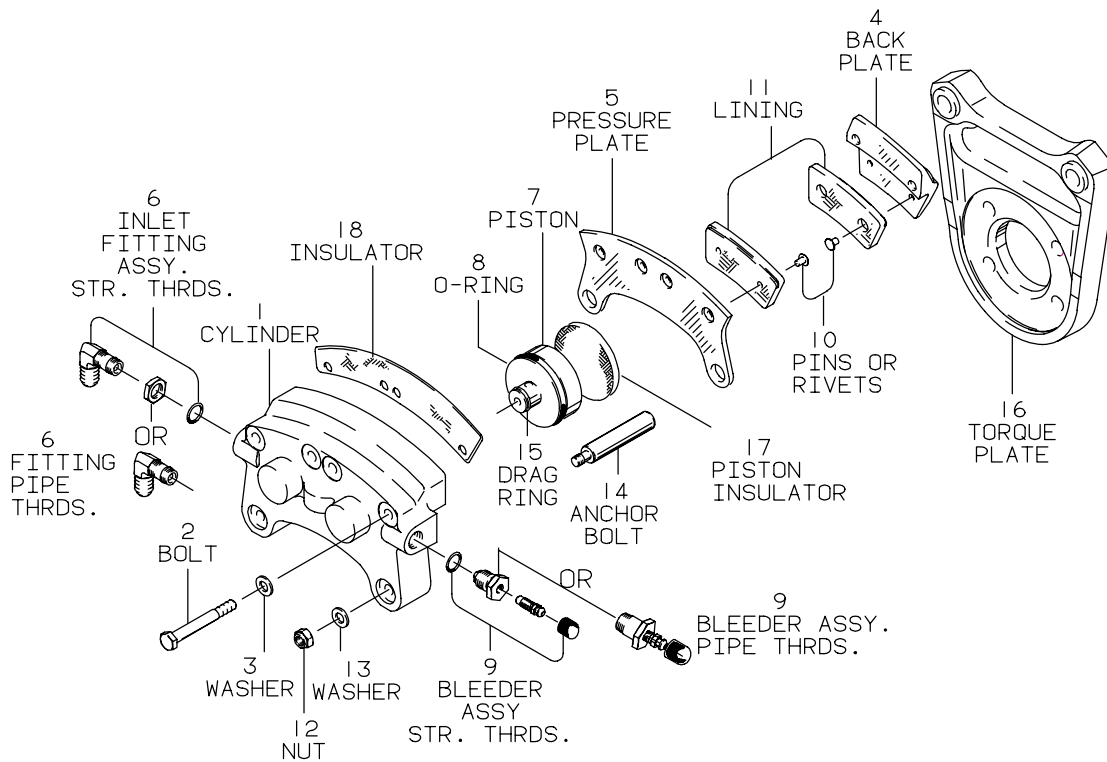

Figure 2 - Typical External Disc Brake
The brake is an external caliper-type design. The cylinder (1), Ref. Figure 2, is a cast aluminum or magnesium housing. The pistons (7) are contained by the cylinder and form a pressure vessel for the brake fluid. Two anchor bolts are press fitted into the cylinder and are retained with nuts (12) and washers (13). The pressure plate (5) is held in position by the two anchor bolts. Back plate (4) is secured to the cylinder with bolts (2) and washers (3) on the opposite side of the brake disc. The back plate and pressure plate each hold brake linings (11). The cylinder is allowed to slide or float in torque plate (16) bushings. The torque plate is mounted to the landing gear axle. The caliper (cylinder assembly) is the assembly which includes the cylinder, pistons, back and pressure plates, linings, and other related components. Back plate to cylinder insulator shim (18) and piston to pressure plate insulator disc (17) are typically found on calipers that use the metallic based lining only. Specific illustrated parts breakdown for brake assemblies may be found in the product catalog.